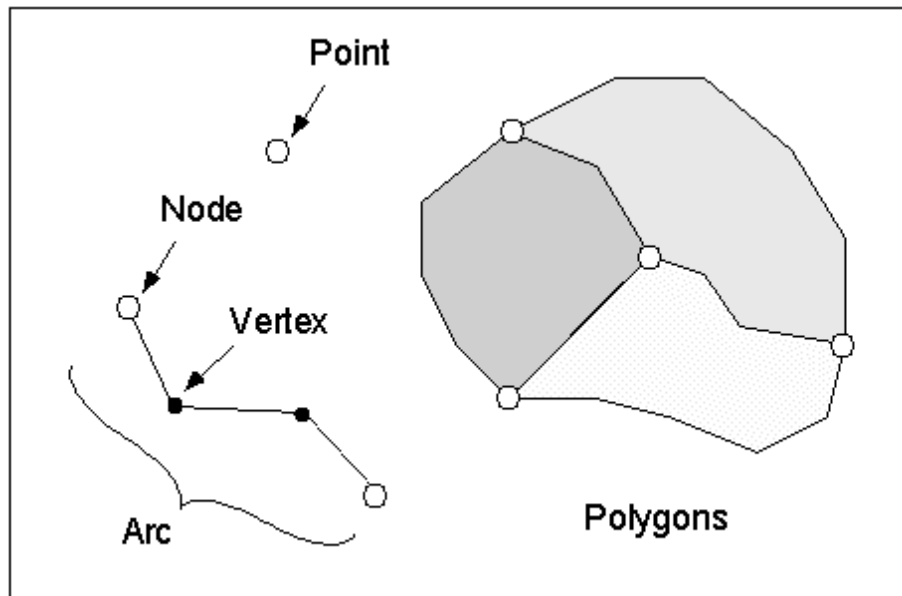

Figure 7 Feature Objects
Feature objects in SMS include points, nodes, arcs, and polygons, as shown in Figure 7. Feature objects are grouped into sets called “coverages.” Only one coverage can be active at a time.
2. Double-click on the point inside the left polygon, labeled in Figure 7. This will bring up the *Feature Point/Node Attributes* dialog.